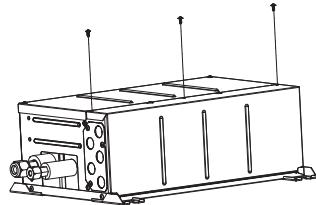

Fig. 4-5
4.1. The direction of the piping can be changed. (Fig. 4-4). [Work Procedures] (Fig. 4-5)
- ① Remove the screws in each part.